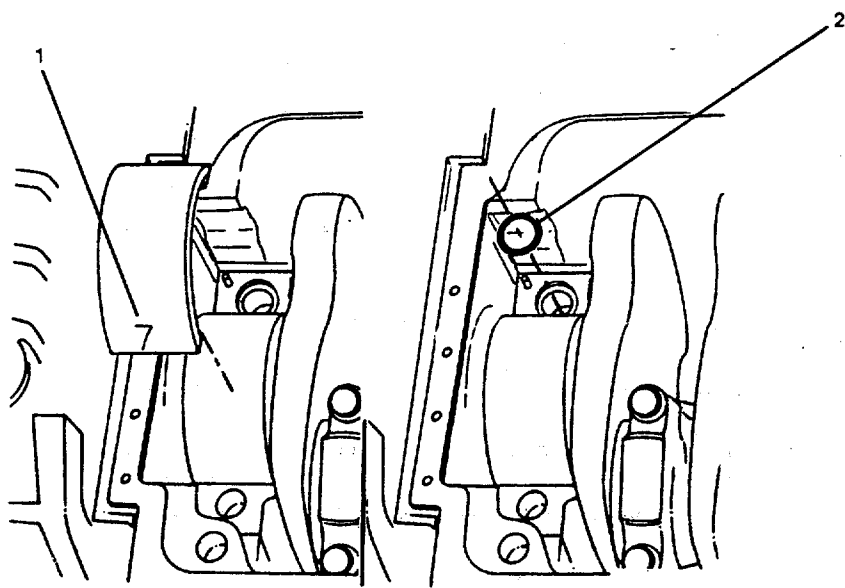

FIGURE 4-41. *Remove Dowel Ring.*
Mark the bearing shells with the journal number from which they were removed (1, Figure 4-41).
- (4) Remove the dowel ring (2, Figure 4-41).